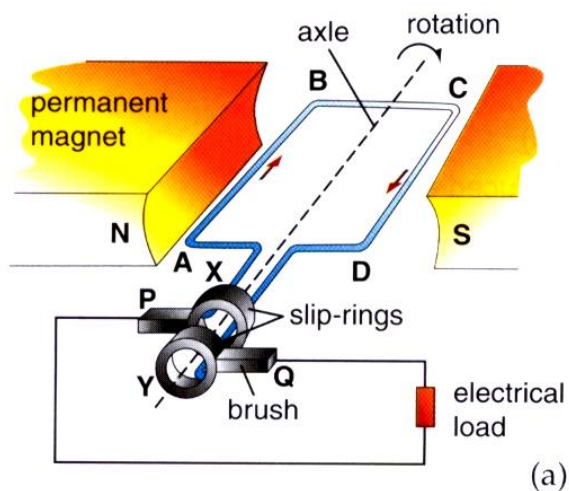
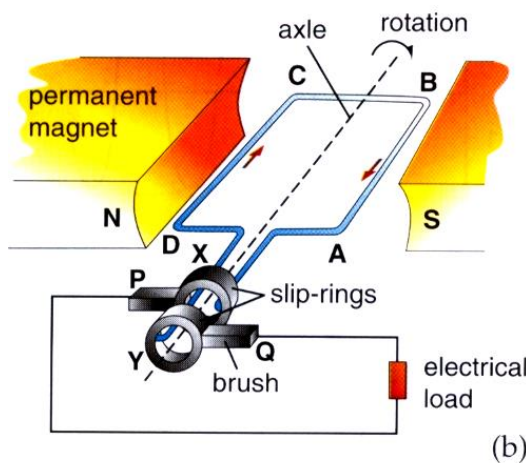

Figure 3.1: Initial Position
Figure 3.2: Position 180° from Initial Position
- Position the model according to Figure 3.1. Use Fleming's Right Hand Rule to determine the direction of induced current. Use the galvanometer model to indicate the direction of induced current (making the assumption that that the direction of induced current is the same as the direction of deflection of the galvanometer)
- Orientate the model according to Figure 3.2. Use Fleming's Right Hand Rule to determine the direction of induced current. Use the galvanometer model to indicate this new direction of induced current.
- In Figure 3.1 and Figure 3.2, draw the mechanical forces acting on the coil, verified the direction of induced current using Fleming's Right Hand Rule and draw the direction of the induced current through the electrical load.
3.1. From part (i) able to see that the current changes direction by comparing the current through the electrical load in Figure 3.1 & 3.2